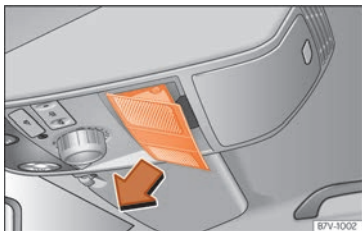

Fig. 17 On the interior roof lining: remove the cover.
- Push open the cover in the direction indicated (arrow) »» Fig. 17.